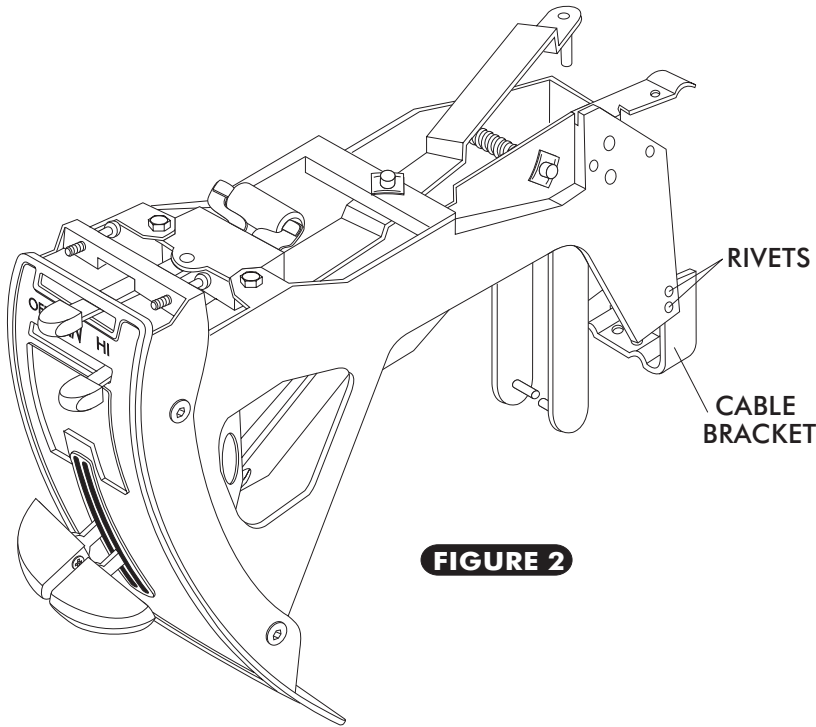

FIGURE 2
- USING A 1/8", DRILL BIT REMOVE THE (4) O.E.M. MOUNTING RIVETS SEE FIGURE 2 BELOW.